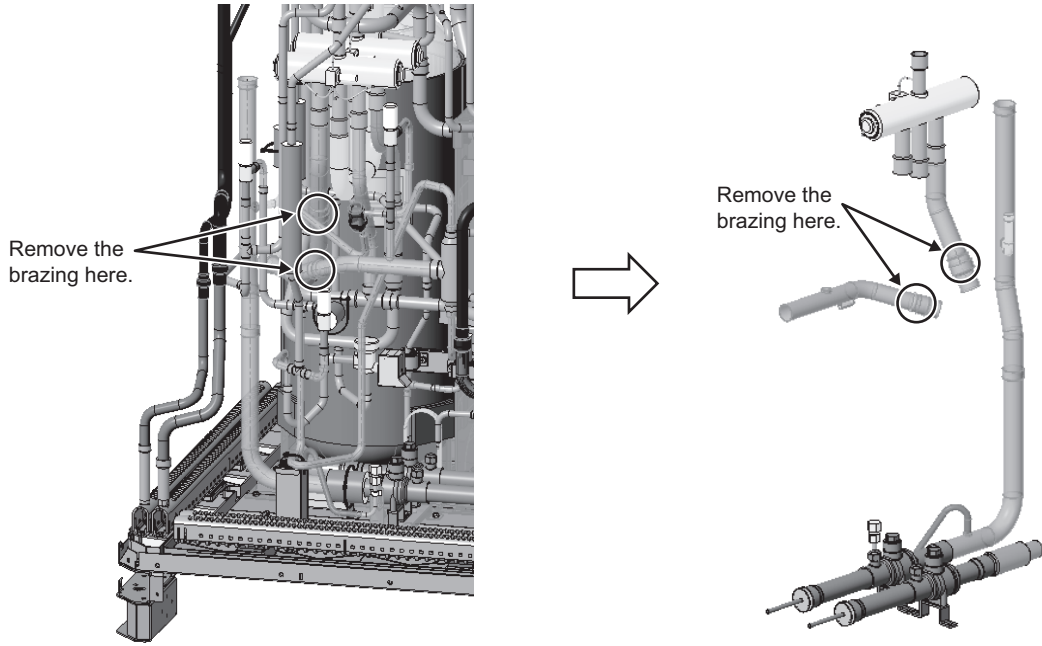

Fig. 8
(6) After removing the check valve assembly, remove the brazing from the pipe that was cut in step (3). (Two areas: Fig. 8)